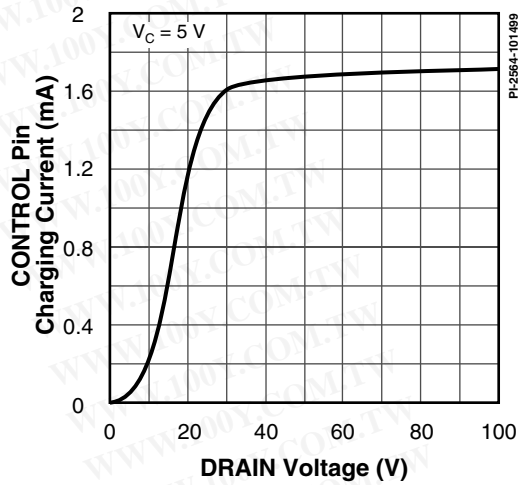

Figure 68.  $I_c$  vs. DRAIN Voltage.
- E. It is possible to start up and operate *TOPSwitch-GX* at DRAIN voltages well below 36 V. However, the CONTROL pin charging current is reduced, which affects start-up time, auto-restart frequency, and auto-restart duty cycle. Refer to Figure 68, the characteristic graph on CONTROL pin charge current (IC) vs. DRAIN voltage for low voltage operation characteristics.